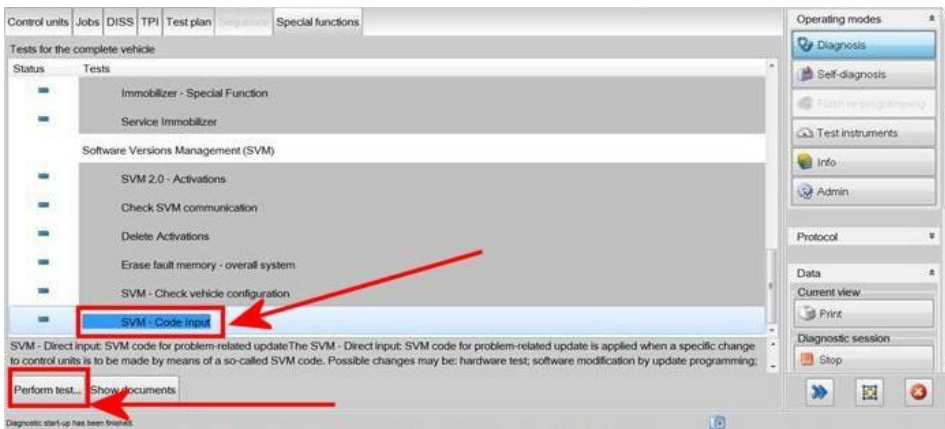

Figure 2
- Because of the highest transmission stability you **MUST** use the diagnosis interface VAS 6154 (WiFi diagnostic tool) **ONLY** in USB operation or the cable-connected VAS 5055 for the reprogramming (updating) of control units. If these units are not available, the diagnosis interface VAS 5054 (A) can also be used in USB mode
- Within the Special functions tab select 'SVM Code Input' then select Perform test (Figure 2)